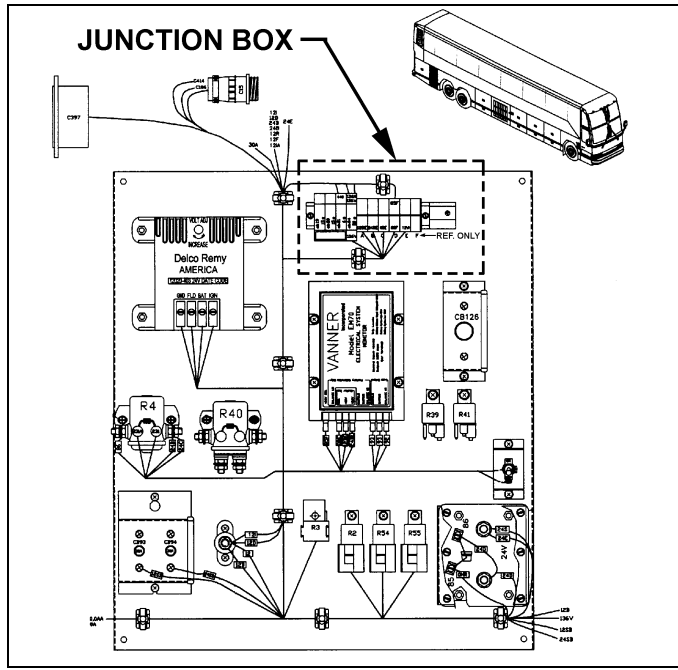
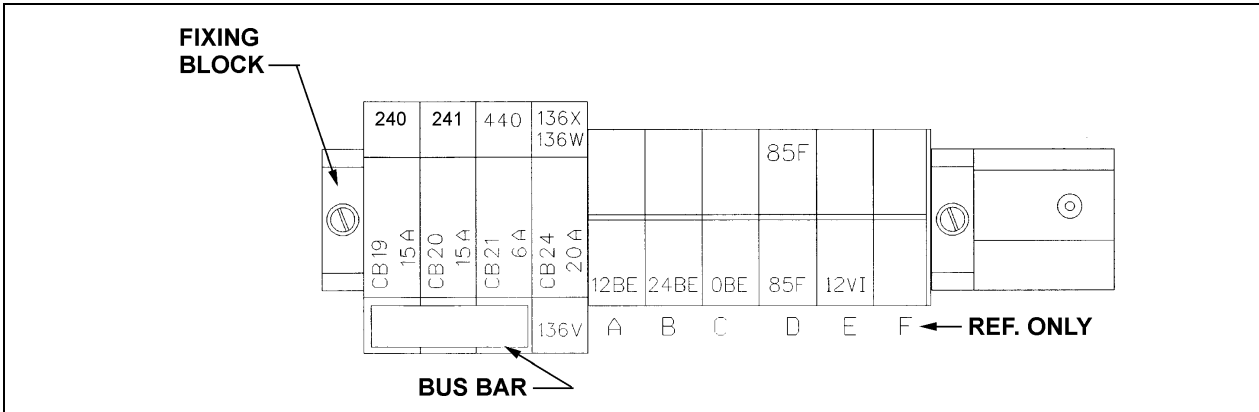

FIGURE 1 : BATTERY COMPARTMENT PANEL
FIGURE 2 : BATTERY COMPARTMENT JUNCTION BOX BEFORE MODIFICATION
1. Open battery compartment, locate the junction box on the battery compartment panel (refer to figure 1). Unfasten circuit breaker fixing block. Unfasten bus bar and CB 21 circuit breaker attaching screws (refer to figure 2). Tilt CB 21 circuit breaker upwards in order to remove.